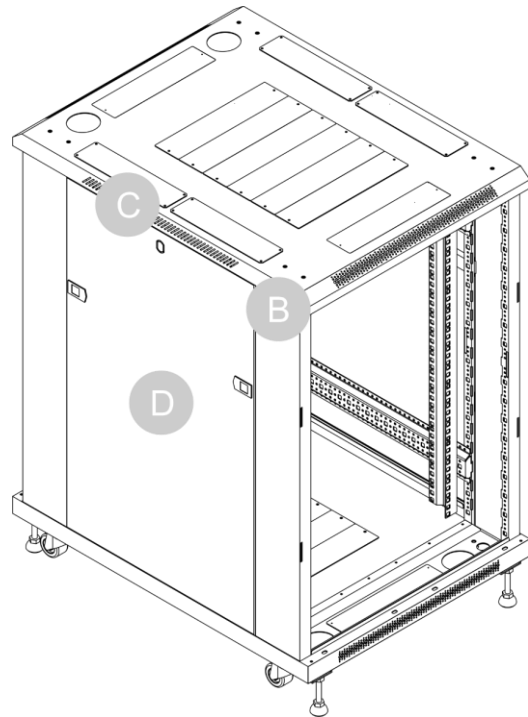

Fig. 38
- 22) Repeat steps 19–21 to install the other **side panel (D)**, as shown in Fig. 38.